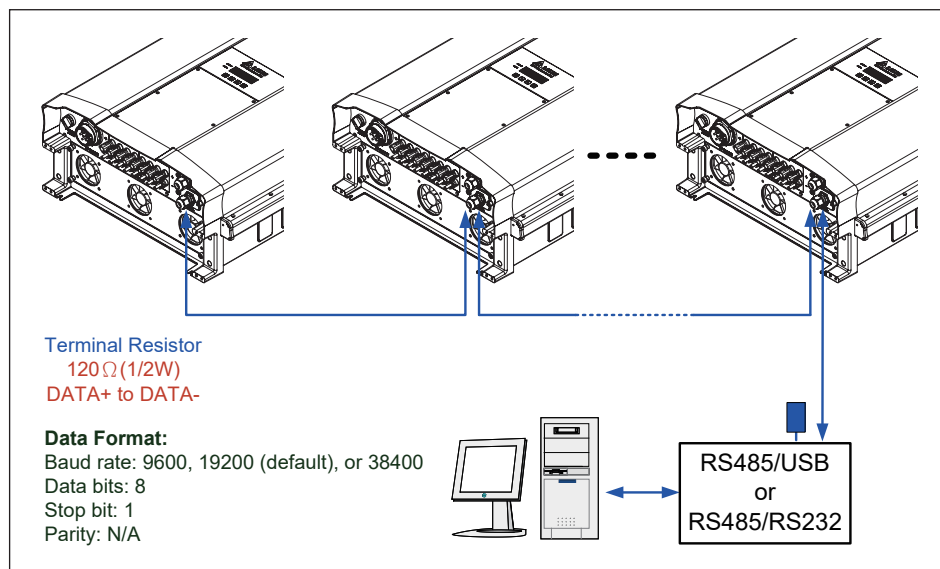

Figure 4-19 : Multi-inverter connection illustration
- When multi-inverters in chain as shown in **Figure 4-19**, only the last inverter's terminal resistor must be switched ON.